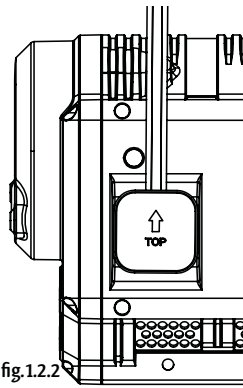

fig.1.2.2
2- The video block contains four (4) 1.0/2.3 connectors. Carefully plug it into your camera's video connectors with cables facing up as shown on fig. 1.2.2. Press securely to insure proper mating of all four (4) connectors.